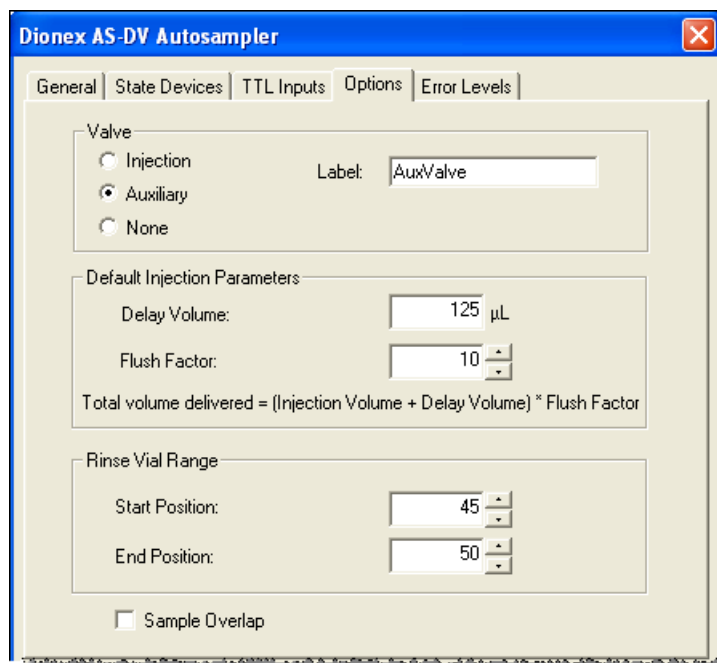

Figure B-8. Dionex AS-DV Properties Dialog Box: Options Tab Page
3. In the Dionex AS-DV Properties dialog box, click the **Options** tab (see Figure B-8).